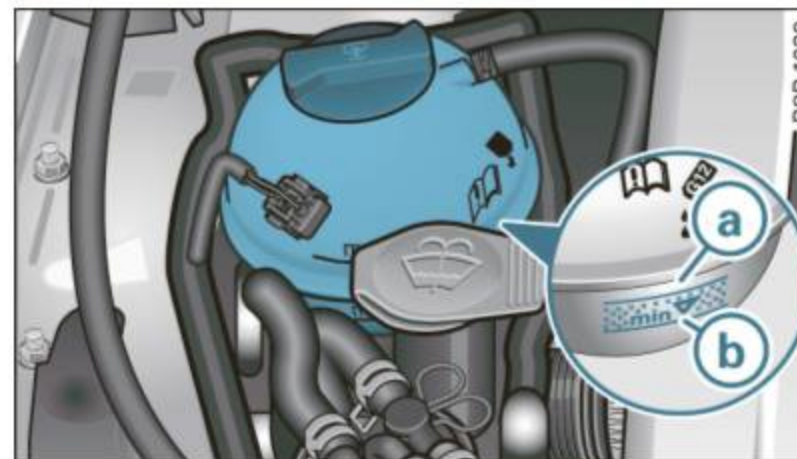

Fig. 166 Engine compartment: coolant expansion tank
- Read the engine coolant level from the coolant expansion tank ⇒ fig. 166. With a cold engine, the coolant level should be between the “min” and “max” markings. When the engine is warm, the level may be slightly above the “max” marking.
- Place a thick rag over the coolant expansion tank ⇒ *page 235*, fig. 166 and **carefully** twist the cap counter-clockwise ⇒ .